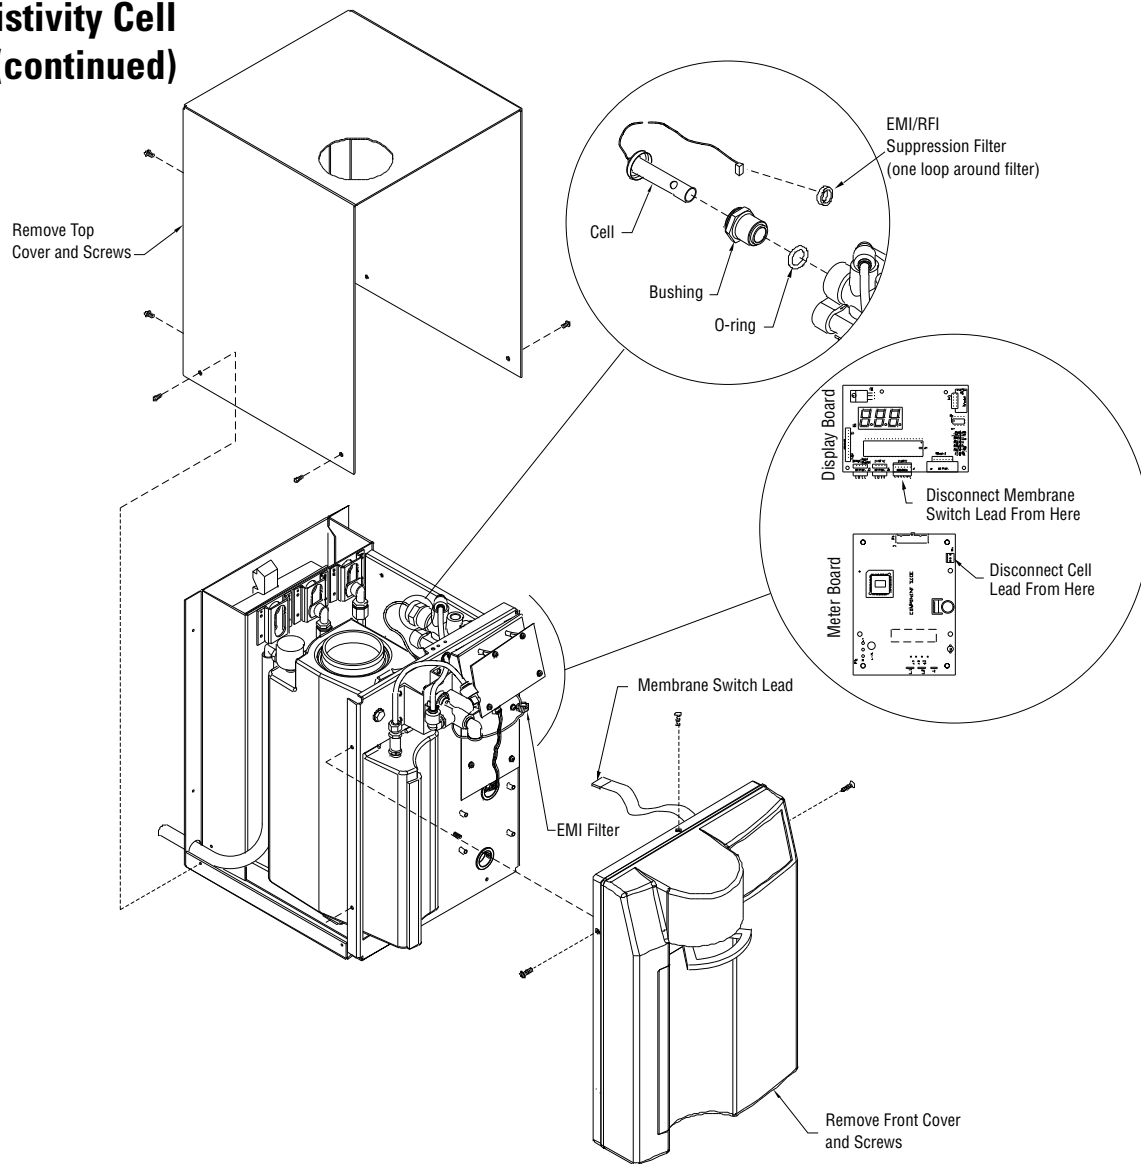

Figure 9-1. Disconnecting the Resistivity Cell
Refer to Figure 9-1 on following page.
6. Remove the 0.2 micron final filter. Carefully remove the front cover screws and pull the cover off. Disconnect membrane switch lead from the display board (see Figure 9-1).
Membrane switch leads not connected.	Disconnect unit from power. Check and reconnect. See Figure 9-1.